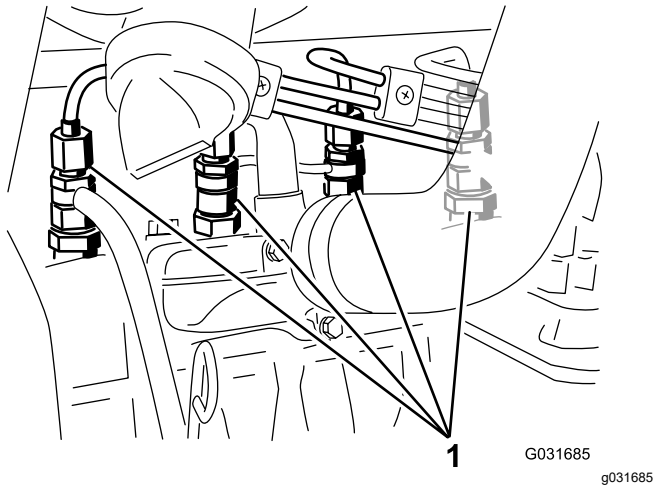

Figure 45
1. Loosen the pipe connection to the No. 1 nozzle and holder assembly (Figure 45).